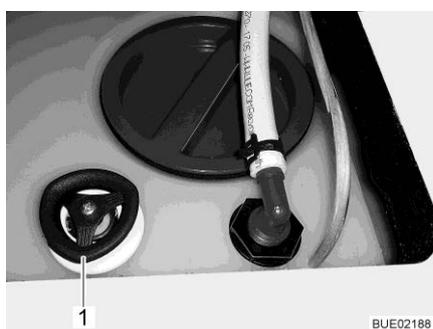

Fig. 184 Water tank with rotary handle
- Remove the cap (Fig. 184,1) of the water tank.